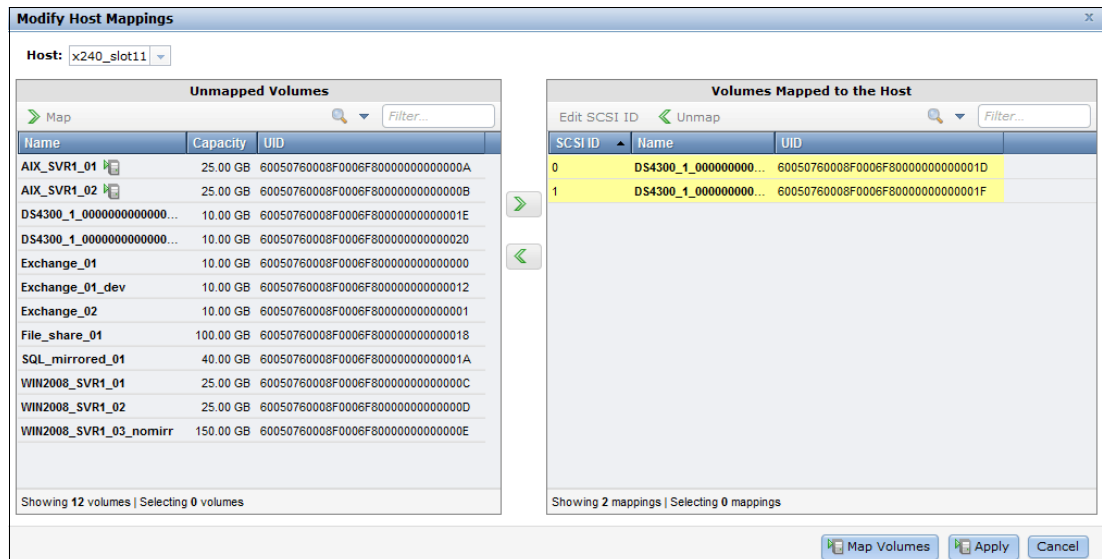

Figure 7-30 Modify Host Mappings
- Figure 7-30 shows all unmapped volumes that can be mapped to host. The volume we right-clicked in the first step now appears in the right-side of the window and is ready to be mapped.